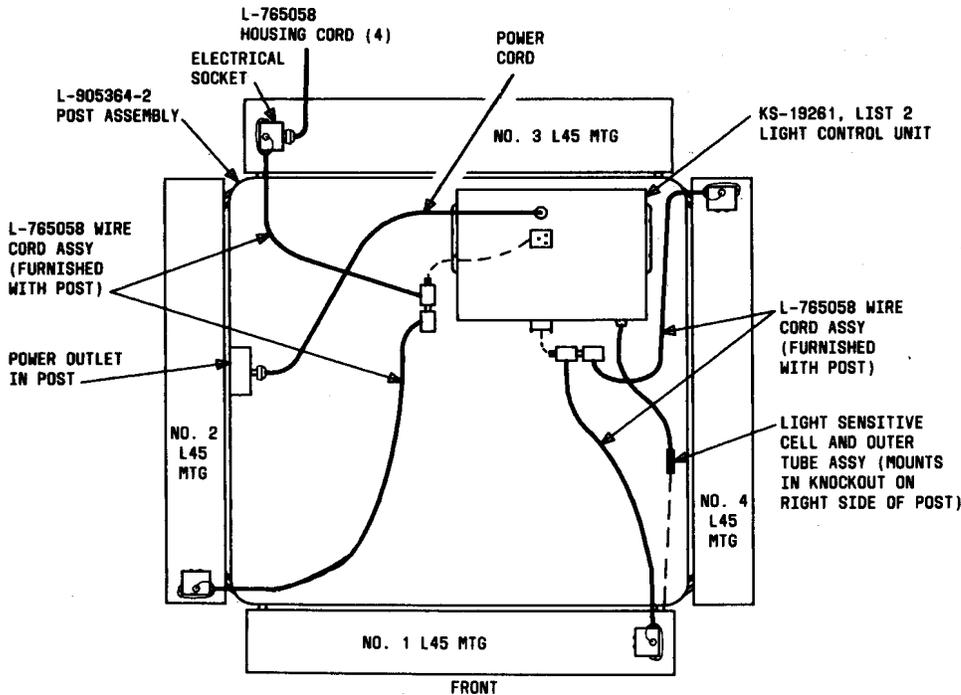

Fig. 22—Position of List 2 Light Control Unit in KS-20842 SENTRY Public Telephone Enclosure (Four-Position Cluster Arrangement)
3.08 ♦The KS-19261, List 2 light control unit (Fig. 2) is also intended for use with KS-20842 SENTRY public telephone enclosure, four position cluster arrangement (Fig. 22) as follows.